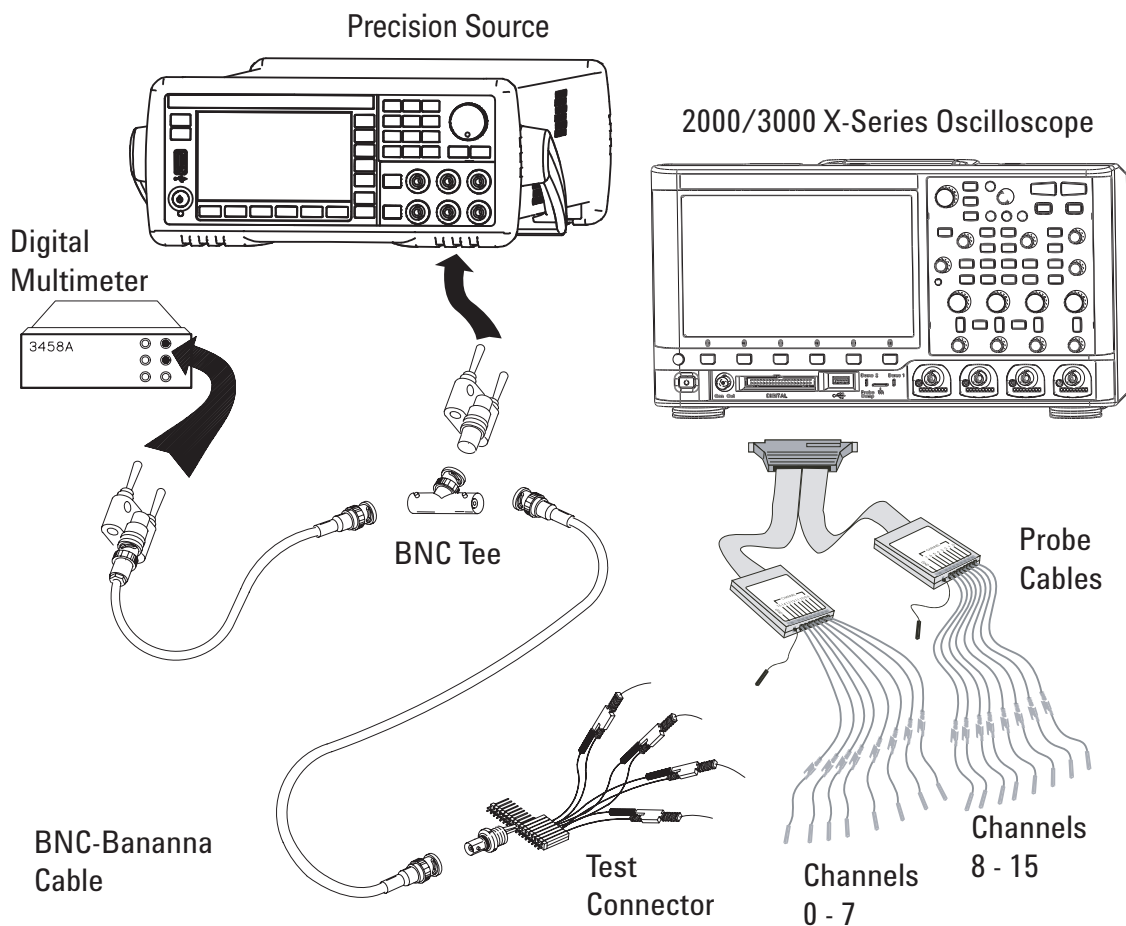

Figure 2 Setting Up Equipment for Digital Channel Threshold Accuracy Test
- 3 Use the 8-by-2 test connector and the BNC cable assembly to connect digital channels D0-D7 to one side of the BNC Tee. Then connect the D0-D7 ground lead to the ground side of the 8-by-2 connector. See Figure 2.
- 5 Connect the BNC Tee to the Channel 1 output of the precision source as shown in **Figure 2**.